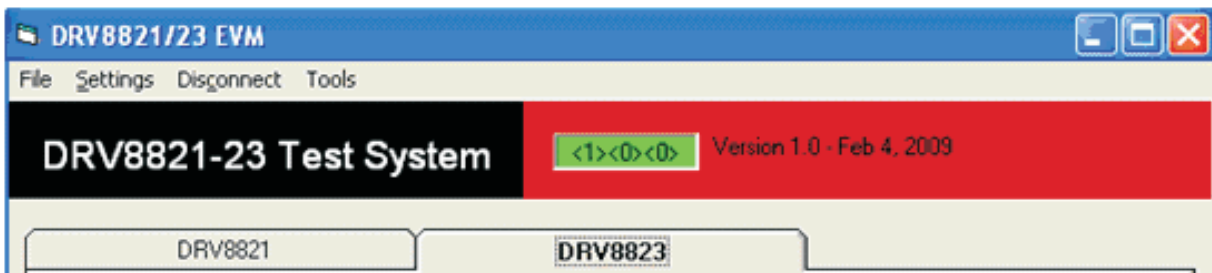

Figure 5. Acknowledgement Text Box
3. <1><0><0> should return on the text box as an acknowledge. The text box also changes from red to green, as shown in Figure 5.